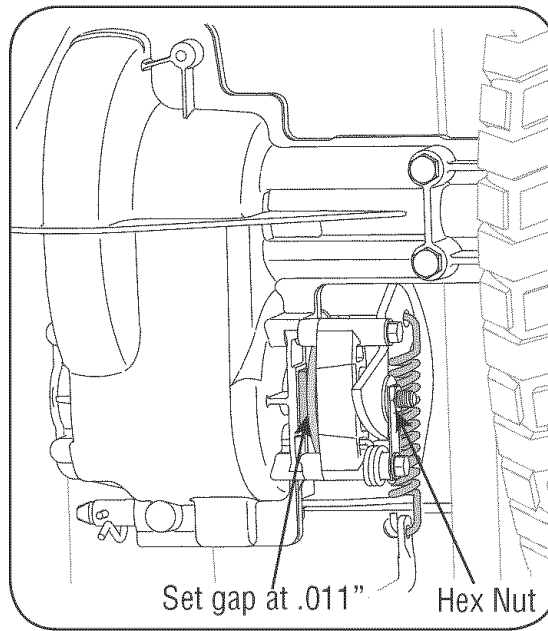

Figure 13
1. Looking at the transmission from the right side of the tractor, locate the compression spring and brake disc. See Figure 13.
- Loosen, but do NOT remove, the hex nut found on the right side of the brake assembly. See Figure 13.